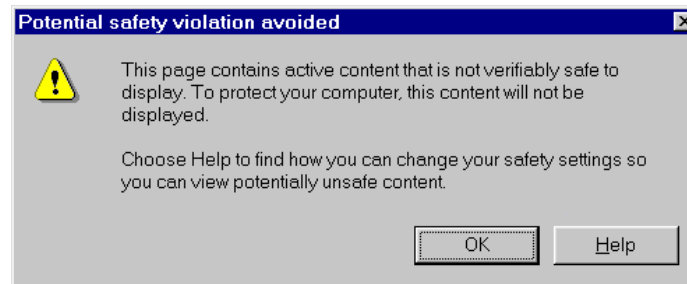

Figure 25. High security settings won't work for your unsigned ActiveX control.
- **In IE3:** From Windows Explorer, double-click on PRGMETER.HTM to load it into your browser. It should fail, complaining about security. In IE3, the dialog looks like that shown in Figure 25.